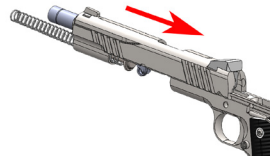

Figure 43
- Install the slide assembly onto the frame rails, ensuring that the barrel link stays vertical – Figure 43.